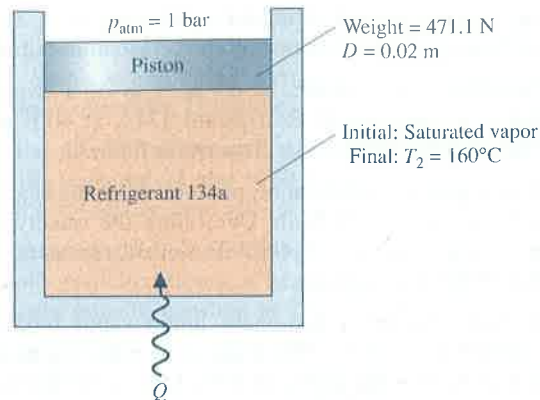

Fig. P3.36
3.36 As shown in Fig. P3.36, Refrigerant 134a is contained in a piston–cylinder assembly, initially as saturated vapor. The refrigerant is slowly heated until its temperature is 160°C . During the process, the piston moves smoothly in the cylinder. For the refrigerant, evaluate the work, in kJ/kg.